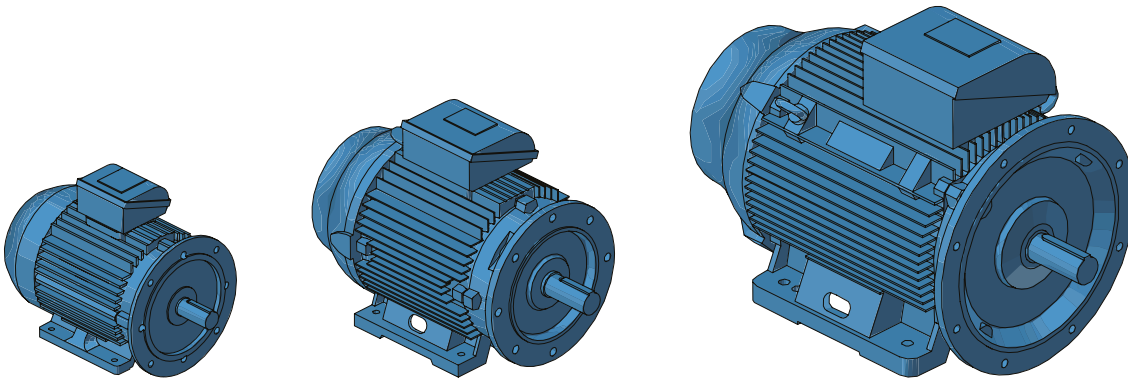

Fig.9.11.3d Range of IEC motor frame sizes
2. Increased motor size (see Fig. 9.11.3d). Increasing motor size is the alternative solution. With this, the motor is operated at a reduced load. Therefore, there is less power loss and an additional increased thermal reserve due to increased size of the motor.